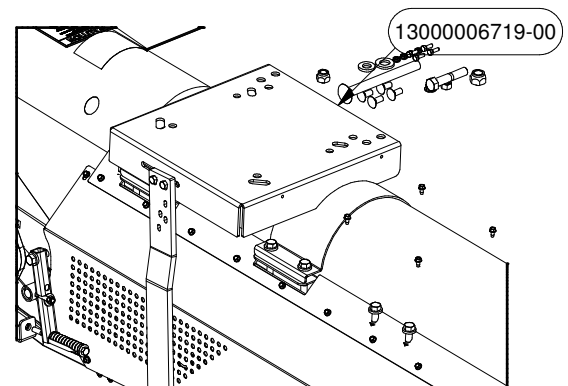

FIGURE 3
3. Attach the Manual Holder PN# 5049 to the Motor Mount PN# 6719 using its included 1/4" Self Tapping Screws. Parts can be found in Intake Hardware Box PN# 6913. See Figure 3 for details.